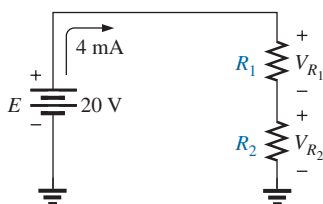

FIG. 5.40
**EXAMPLE 5.19** Design the voltage divider circuit in Fig. 5.40 such that the voltage across  $R_1$  will be four times the voltage across  $R_2$ ; that is,  $V_{R_1} = 4V_{R_2}$ .